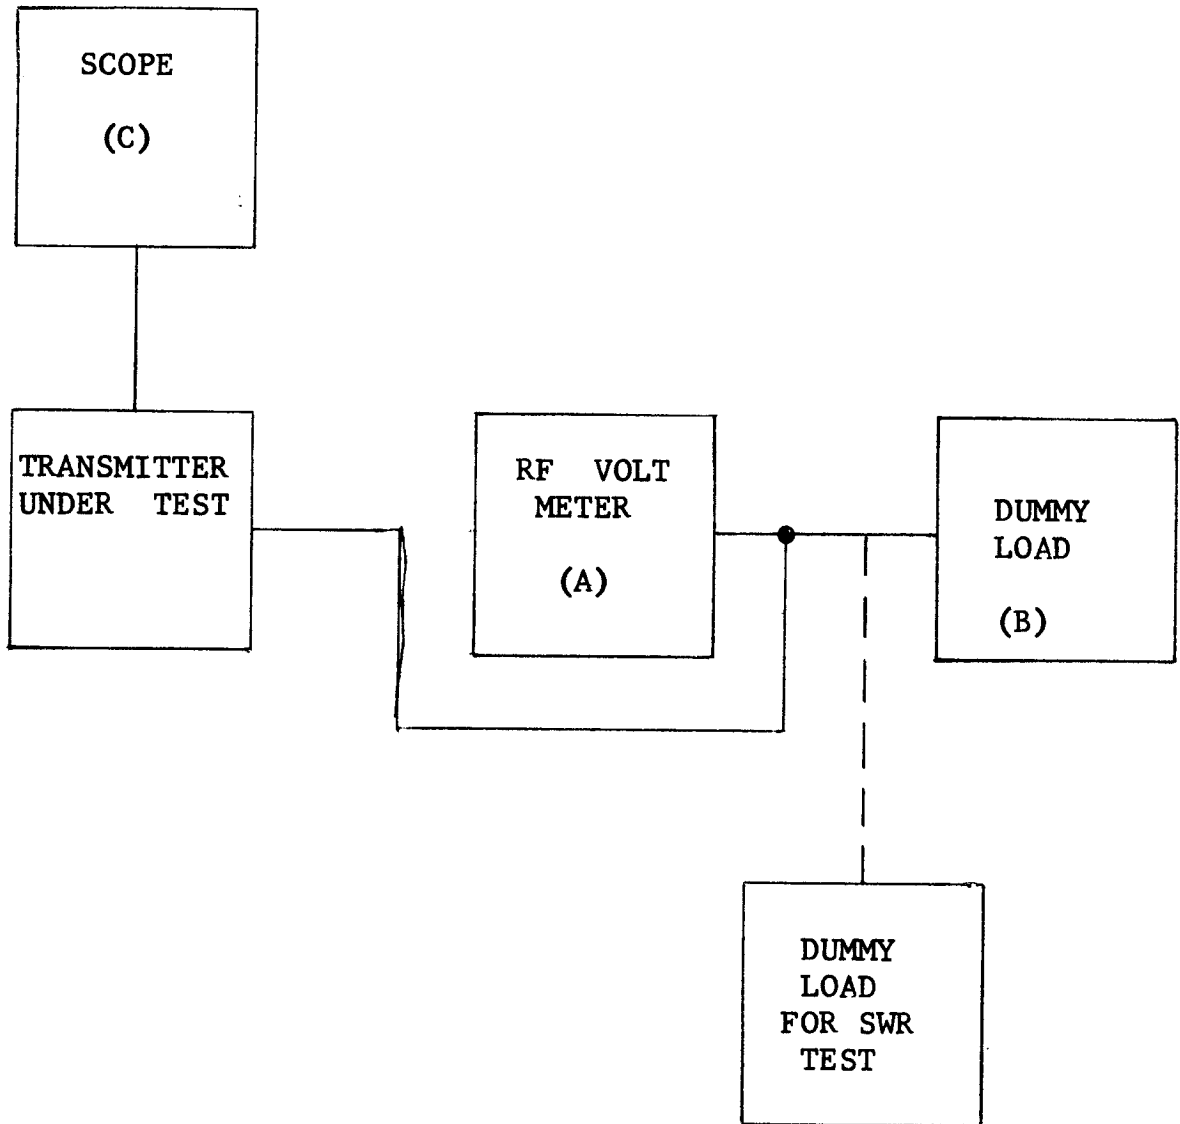

FIGURE 2.1
- a. Connect the equipment as shown in figure 2.1
- a. Connect the equipment as shown in Figure 2.1